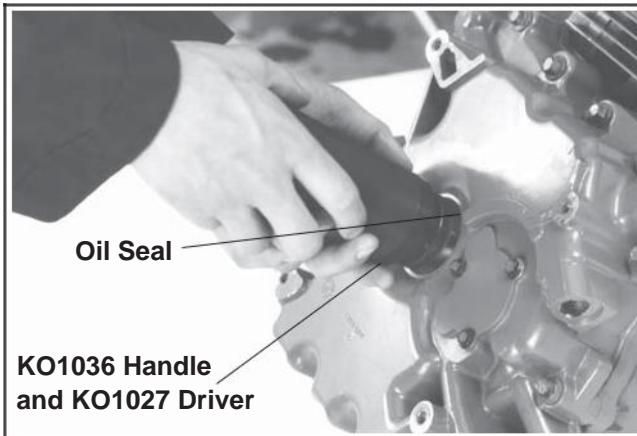

Figure 11-25. Installing Oil Seals.
2. Use handle Kit No. KO1036 and seal driver Kit No. KO1027. Install the seals until the driver bottoms against the crankcase or oil pan. See Figure 11-25.